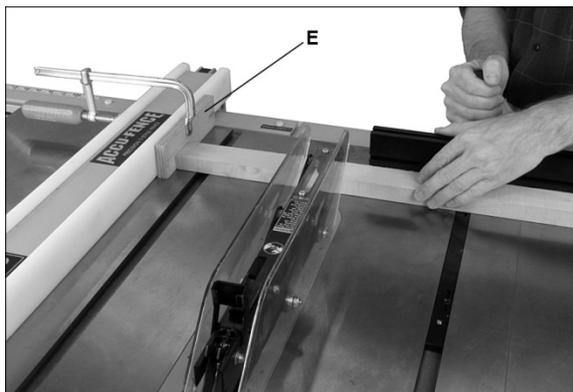

Figure 9-8
- ❑ Do not use miter gauge and rip fence in the same operation unless provision is made by use of a facing board on the fence, to allow the cutoff section of workpiece to come free before the actual cut begins (See Figure 9-8).
Crosscutting should **never** be done freehand, nor should the fence be used as an end stop unless an auxiliary block (E, Figure 9-8) is clamped to the front of the blade area such that the cutoff piece comes free of the block before cutting begins.